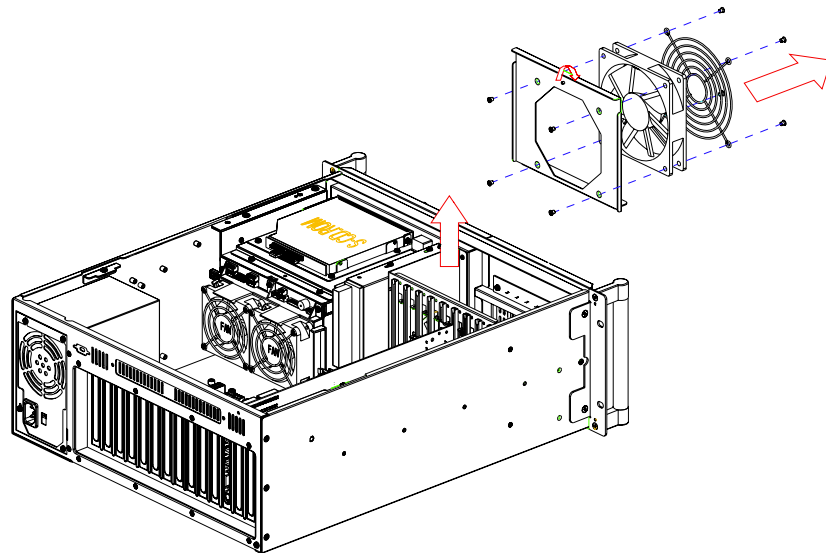

Figure 3.5: Replacing the cooling fan
5. Fix the new cooling fan on the bracket and fan guard by screwing in the eight screws. (see Figure 3.5)